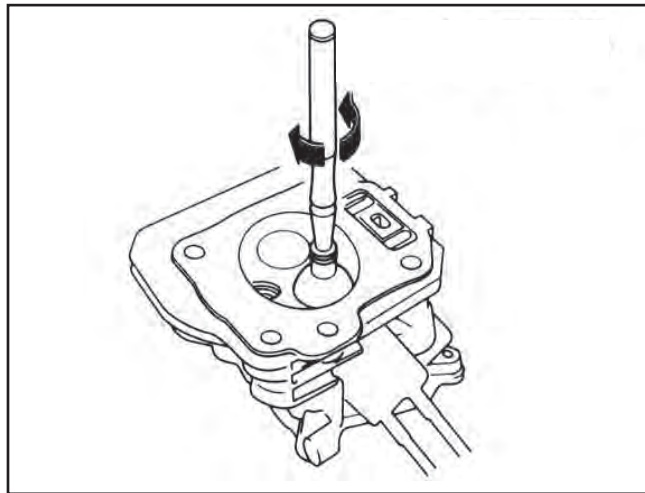

Figure 5
1. Perform valve lapping if any of the following were performed (Figure 5):